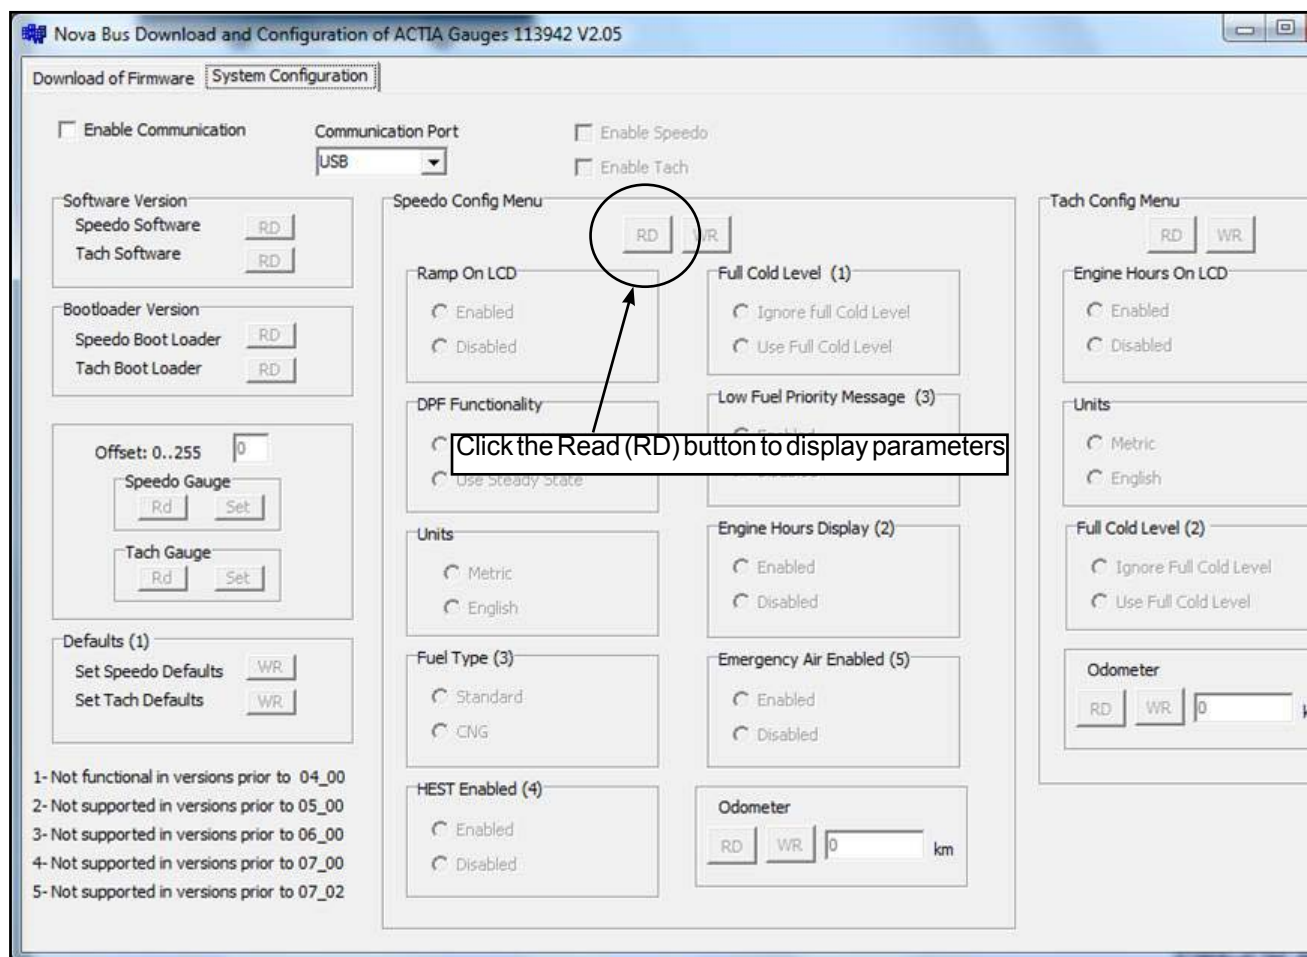

Figure 19 - Click the Read (RD) Button
3.1.14 Click the Read (RD) button in the Speedo Config Menu to display the configuration of parameters (see Figure 19).